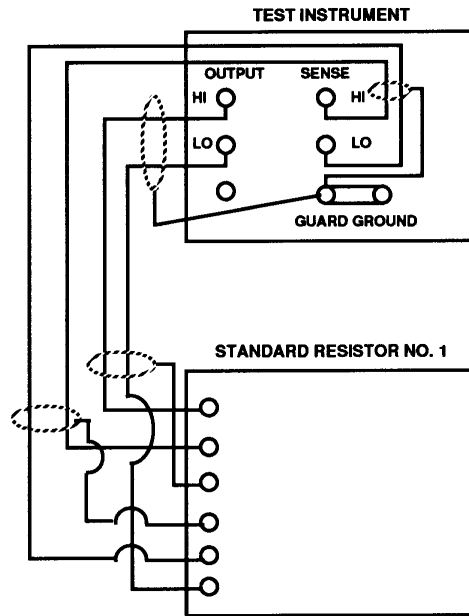

Figure 3. 10 kΩ internal calibration.
- i. Connect equipment as shown in figure 3.